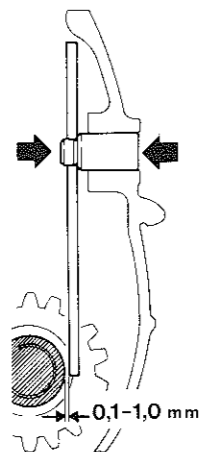

Fig. 6.16 Reverse gear-to-selector lever clearance. Adjust by tapping shaft in or out (arrows) (Sec 15)
- 11 Check that clearance exists between the reverse idler gear groove and the tip of the lever (Fig. 6.16). Adjust if necessary by tapping the lever pivot pin.